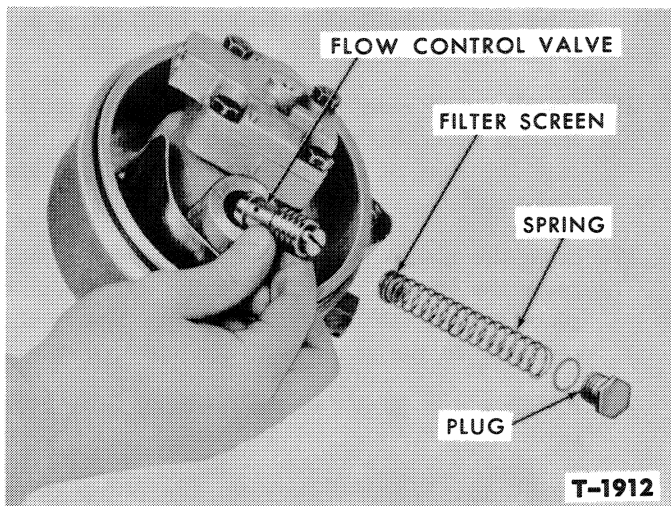

Figure 13—Installing the Flow Valve, Spring, and Retainer Fitting
13. Install the flow control valve in its bore with the slotted end up, Figure 13.